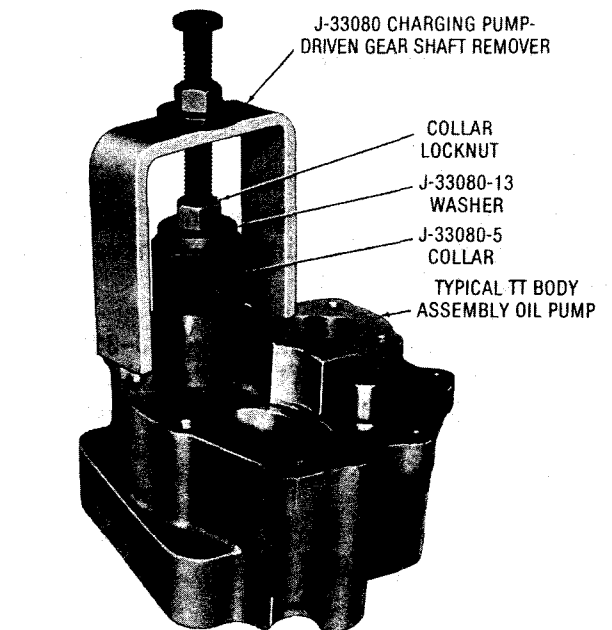

Fig. 6-33. J-33080 shaft remover in place
(8) Tighten the collar locknut until the collar is secured against the collet and onto the shaft that is to be removed (fig. 6-33).